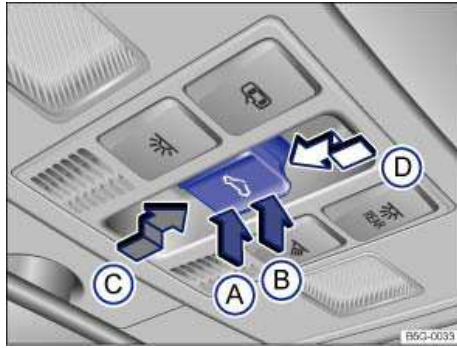

Fig. 31 In the headliner: Power sunroof switch.
The  switch ⇒ fig. 31 has 2 detents for each switch position ((A), (B), (C), and (D)), which are described in the following table.
Function	Action ⇒ fig. 31
- Press the  button ⇒ fig. 31 within about 5 seconds after the sunroof has stopped and hold it in the direction of the arrow (D) at the second detent until the power sunroof closes completely.